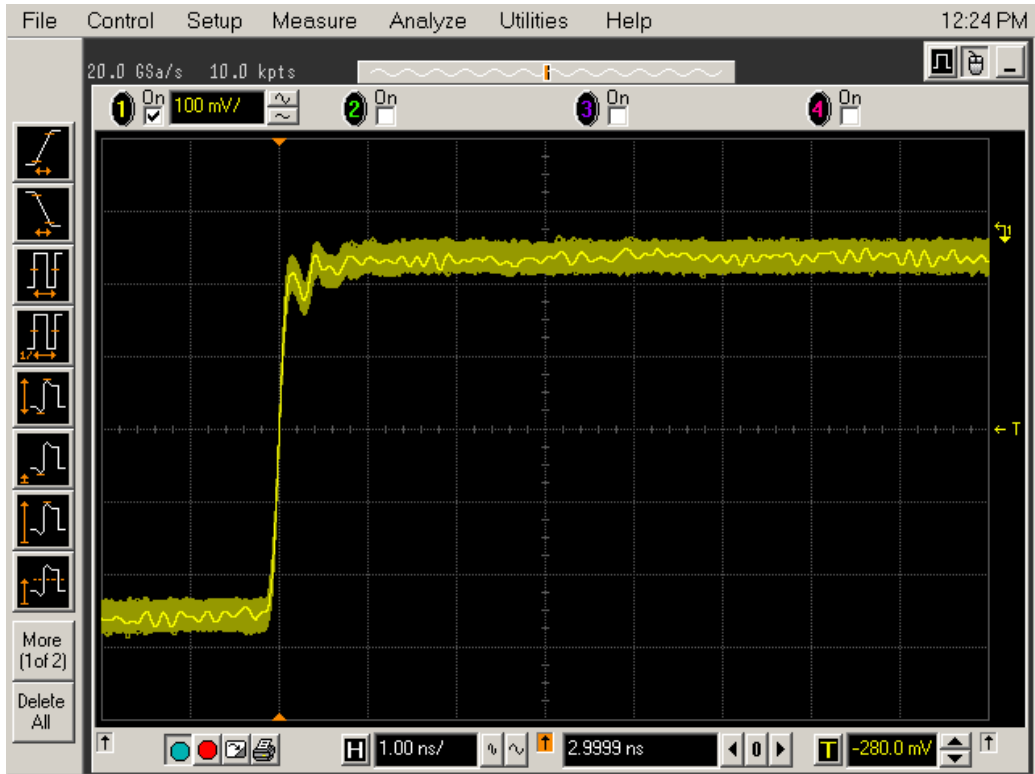

Figure 96 Good Connection Waveform Example
- 4 Set the horizontal position to approximately 3 ns. You should see a waveform similar to that in Figure 96 below.